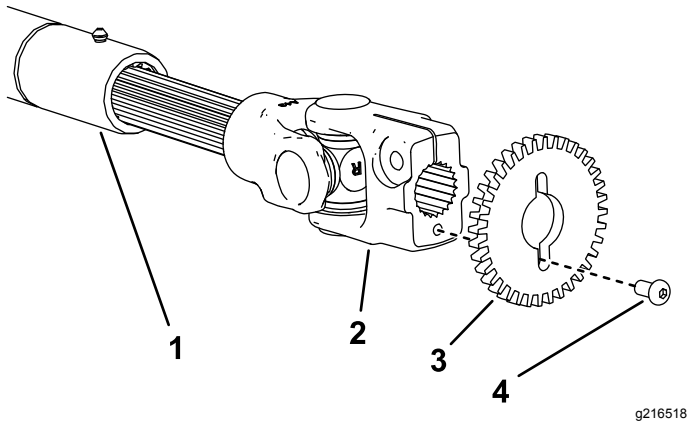

Figure 2
2. Attach the kit yoke and shaft assembly to the end of the driveshaft (Figure 2).
4. Connect the assembly to the reverse idler shaft (Figure 2).